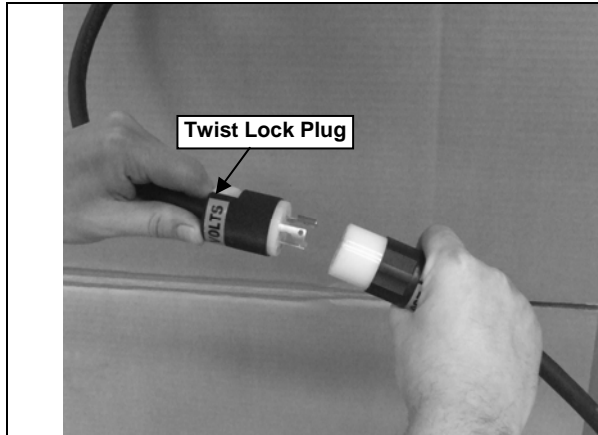
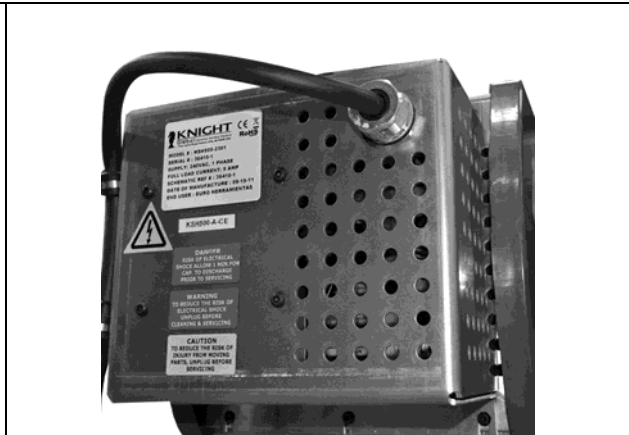

Figure 2-20 Standard
Figure 2-21 CE Compliant
- 1) The Servo Hoist power is connected by a twist lock plug (See Figure 2-20 Standard) or fed by a hard wired circuit, provided by end user (See Figure 2-21 CE Compliant).